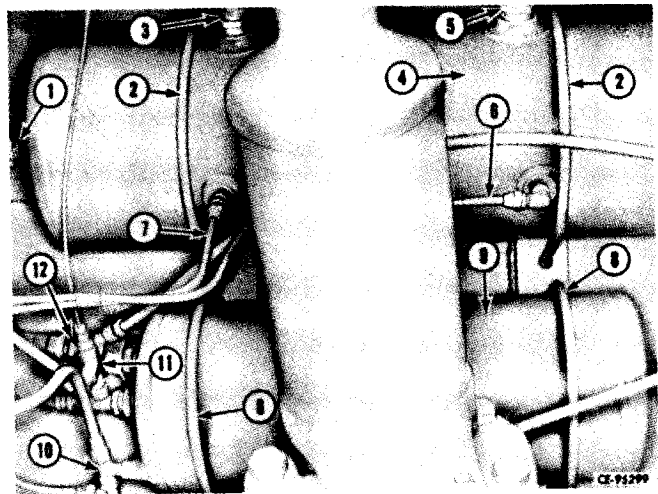

Figure 13-18
DRY RESERVOIR - Disconnect the lines (3, 5, 6 and 7, Fig. 13-18) and check valves (1) from the reservoir (4). Remove the U-bolts (2) and locknuts that secure the reservoir to the frame.
WET RESERVOIR - Disconnect the check valve (12, Fig. 13-18), tee (10) and pipe cross (11) from the reservoir (9). Remove the safety valve. Remove the U-bolts (8) and locknuts that secure the reservoir to the frame.